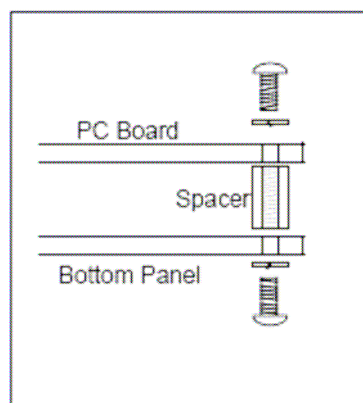

Figure 14. Mounting the spacers to the PC board and the bottom panel
13. □ Install the spacers (Figure 14) below the rear corners of the PC board using 1/4 inch long, 4-40 screws and lock washers. Remove the right side panel, slide in the bottom panel and attach it to the spacers with 1/4 inch 4-40 screws and lock washers. The bottom panel holes are not equidistant from the edges - the hole on the TUNING control side is closer to the right edge than the hole on the VOLUME control side is to the left edge. You may need to flip the bottom panel if the holes do not line up with the spacers. Reattach the right side panel. Attach the four rubber feet to the corners of the bottom panel. At this point the enclosure is complete except for the top panel.